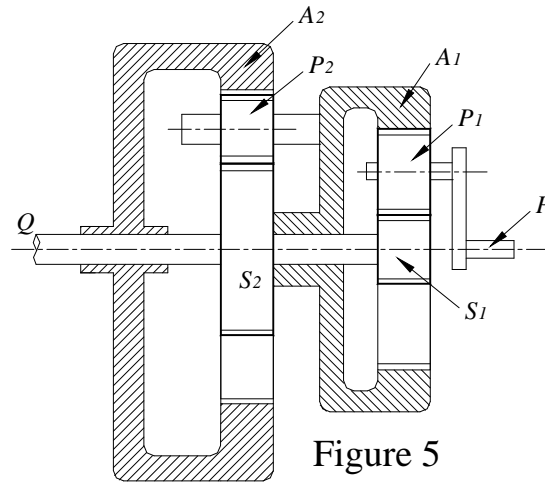

Figure 5
**Problem 5:** Figure 5 shows a compound epicyclic gear train, gears  $S_1$  and  $S_2$  being rigidly attached to the shaft  $Q$ . If the shaft  $P$  rotates at 1000 rpm clockwise, while the annular  $A_2$  is driven in counter clockwise direction at 500 rpm, determine the speed and direction of rotation of shaft  $Q$ . The number of teeth in the wheels are  $S_1 = 24$ ;  $S_2 = 40$ ;  $A_1 = 100$ ;  $A_2 = 120$ .